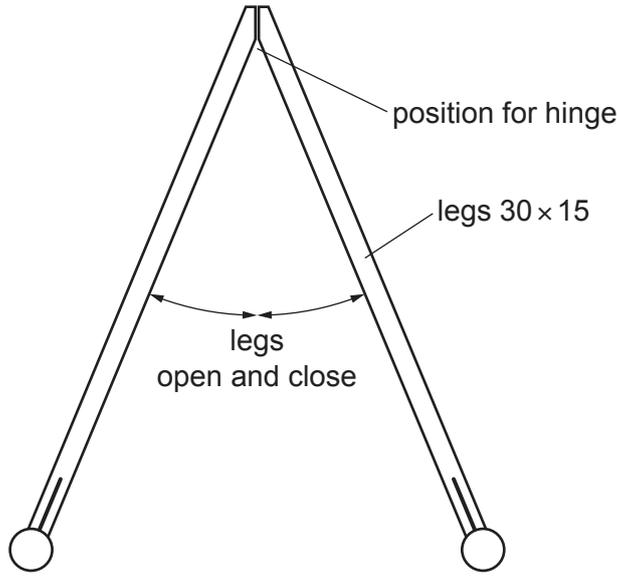

Fig. 11.5
- (f) Fig. 11.5 shows a front view of the guitar stand. The guitar stand will be made adjustable to support different types and sizes of guitar. The hinged legs need to be opened or closed and locked apart at different distances.